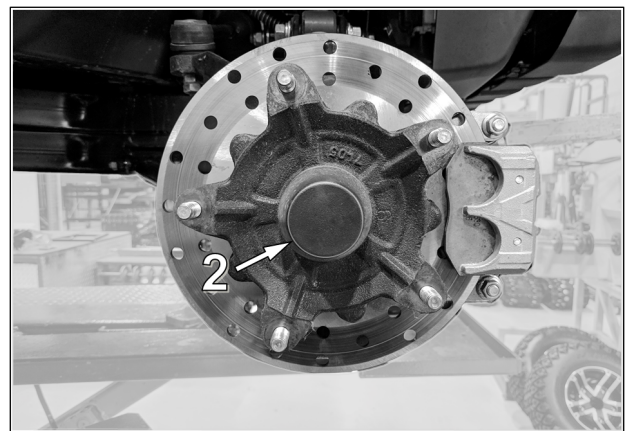

Fig. 9
**CAUTION: Take rubber protector (2) off of hub. See Fig. 9**